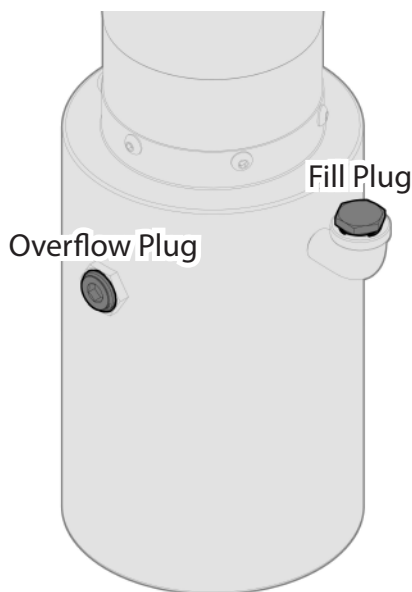

Figure 8: Hydraulic Oil Reservoir
3. Loosen the Overflow Plug slightly (DO NOT REMOVE). See **Figure 8**
1. Locate and remove the six (6) screws retaining the hydraulic reservoir (around the perimeter of the reservoir flange). Remove the reservoir by guiding it straight down. This will expose the pick-up tube.
3. Reinstall the reservoir using the six (6) screws removed in step #1.
4. Loosen the Overflow Plug slightly (DO NOT REMOVE). See **Figure 8**
5. While the Overflow Plug is loose, Remove the Fill Plug. See **Figure 8**